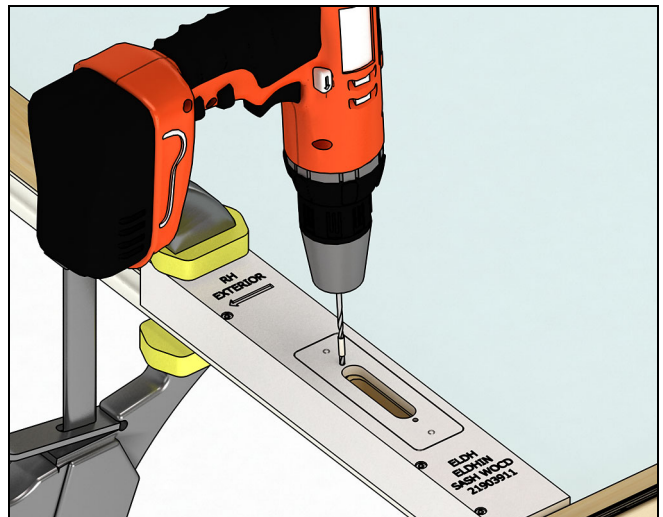

Figure 5
12. Using a drill with a 7/64" drill bit, drill two holes into the top sash through the pilot holes to a depth of 7/8". See Figure 5.